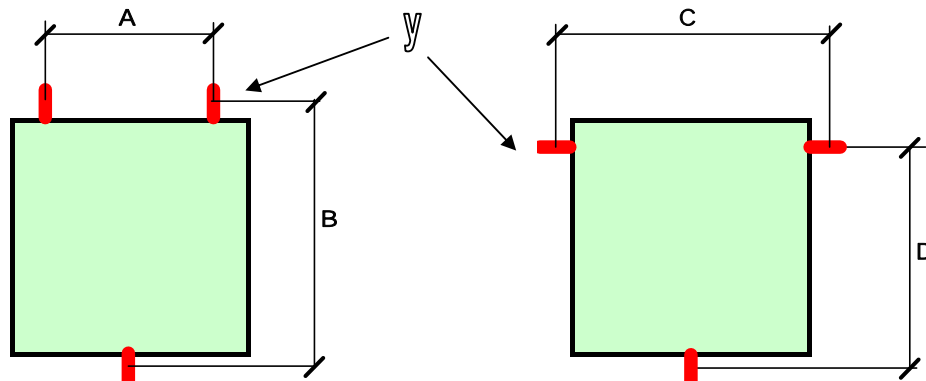

figure 1: unit with 3 fixing plates
- Wall-mounted units equipped with fixing brackets (figure 1),
Table 1 below gives the fixing distances (see figure 1 and 1a) for the "wall-mounted unit" version. These distances relate to the position of the fixing plates (y) and the overall dimensions of the unit (**height x width x depth**).